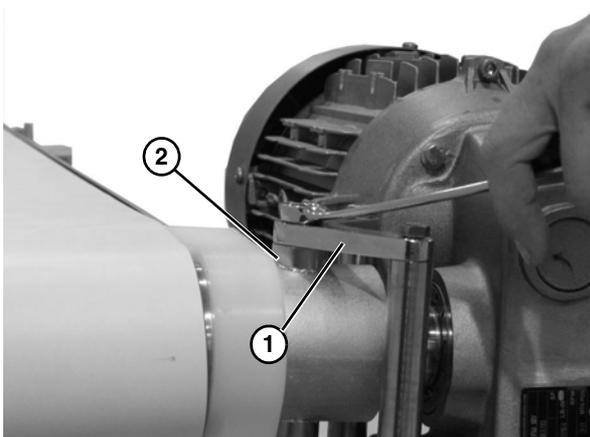

Figure 5
3. Attach the top gearhead mounting bar (Figure 5, item 1) to the motor mounting bracket (Figure 5, item 2).